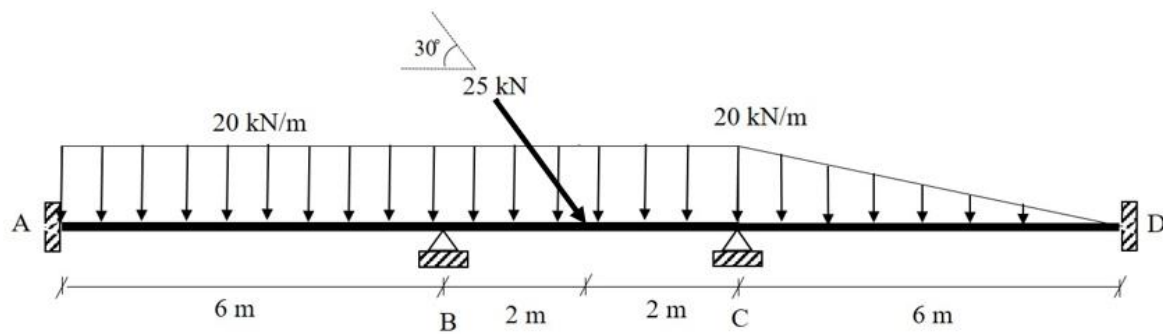

Figure 2
2. **Figure 2** shows a beam carrying a uniformly distributed load of 20 kN/m on span ABC, a triangular load varying from 20 kN/m to 0 kN/m on span CD and an inclined point load of 25 kN at mid span BC. Supports A and D are fixed, whereas supports B and C are pinned. EI is constant for the beam.